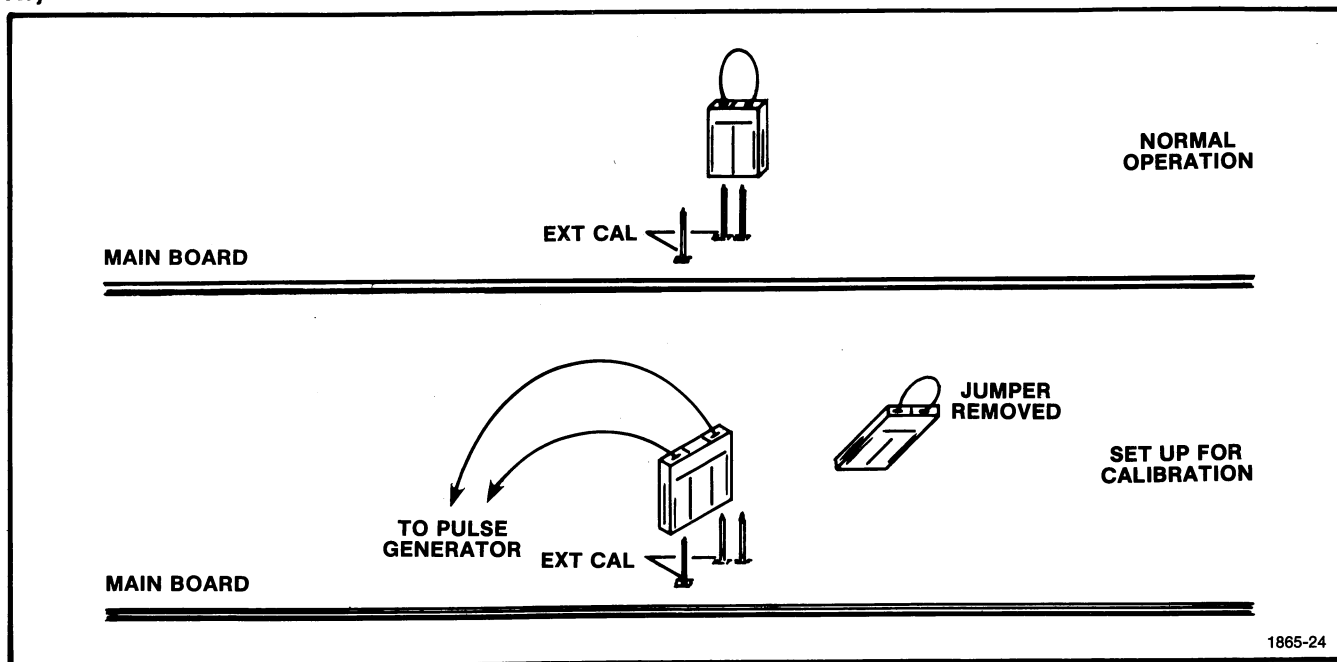

Fig. 4-6. External Calibration connection.
d. Connect the - OUTPUT from the PG 501 to the EXT CAL terminals on the Main Board (see Fig. 4-6).